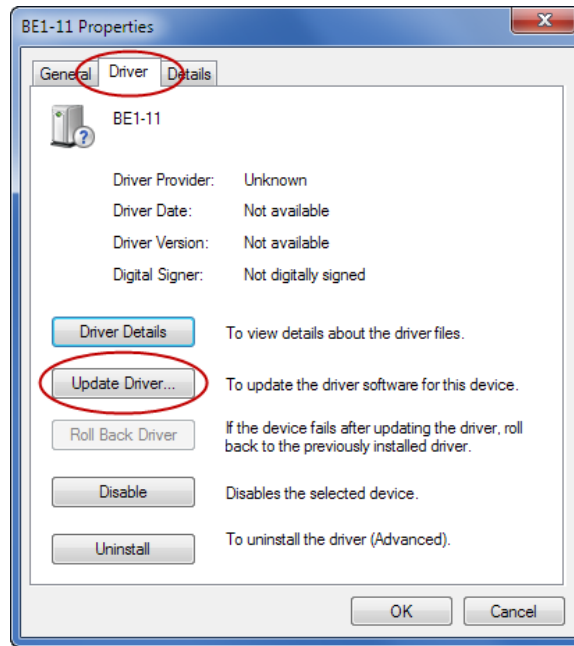

Figure 77-3. BE1-11 Properties
- Step 3. In the Properties windows, select the Driver tab and click Update Driver. See Figure 77-3.